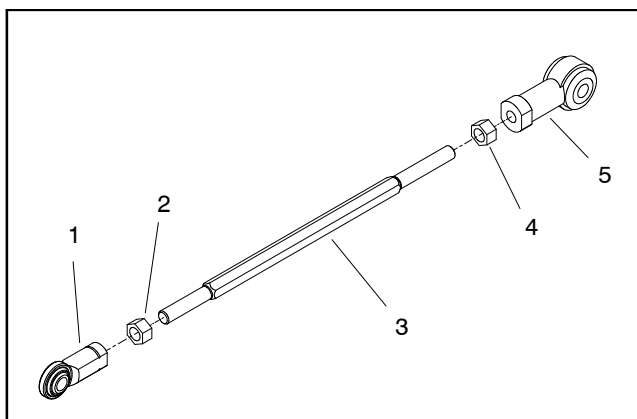

Figure 57
B. Adjust length of control arm (Fig. 57) until alignment pin can freely slide in transmission components. Tighten control arm jam nuts after adjustment. Make sure that control arm rod end and ball joint remain vertical and parallel after adjustment.